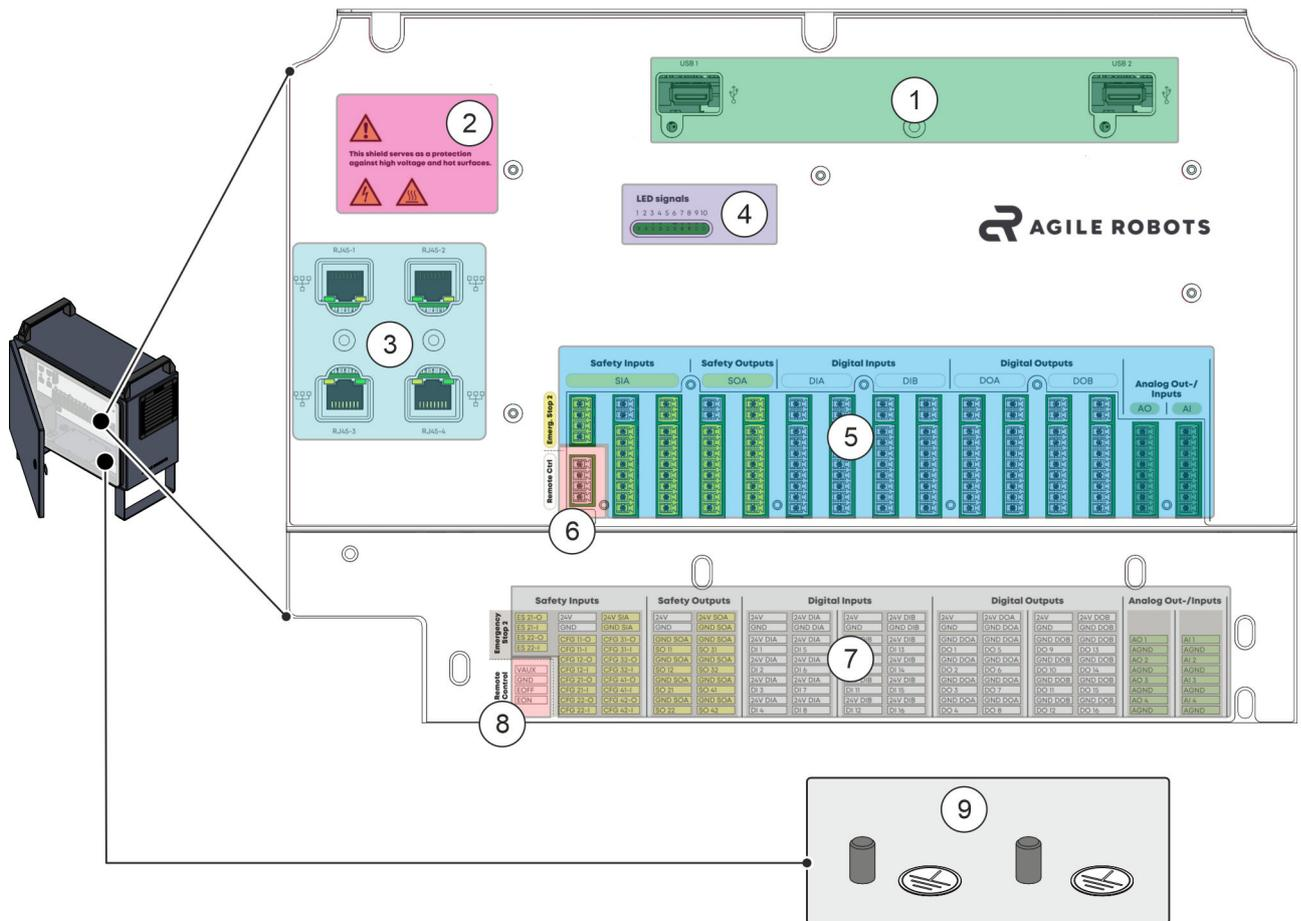

Fig. 16 Overview of open robot controller
- ① USB ports
- ② Warning signs
- ③ Ethernet ports
- ④ LED signal lights
- ⑤ I/O interfaces
- ⑥ Remote control interface
- ⑦ Labelling of the I/O interfaces
- ⑧ Labelling of the remote control interface
- ⑨ Protective conductor connection points
Opening the door on the robot controller gives the system integrator or the electrician access to the electrical input and output interfaces (hereinafter: I/O interfaces) of the robot unit Fig. 16/⑤.
In addition to the I/O interfaces, the robot controller includes other ports such as USB and Ethernet ports Fig. 16/① + ③ that allow additional connections to external devices.
Warning signs Fig. 16/② and LED signal lights are also installed on the robot controller Fig. 16/④.